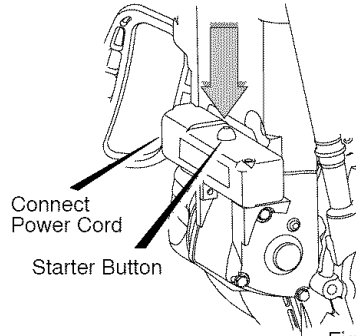

Figure 24
7. (**ELECTRIC START**) Connect the power cord to the engine and depress the starter button. (Figure 24). To prolong the life of the starter, do not crank for more than 5 seconds at a time. Wait one minute between starts to allow the starter motor to cool.